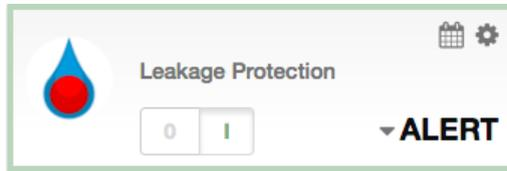

Figure 6.14: Leakage Protection element- alarm
- The element shows the alarm state (Figure 6.14).